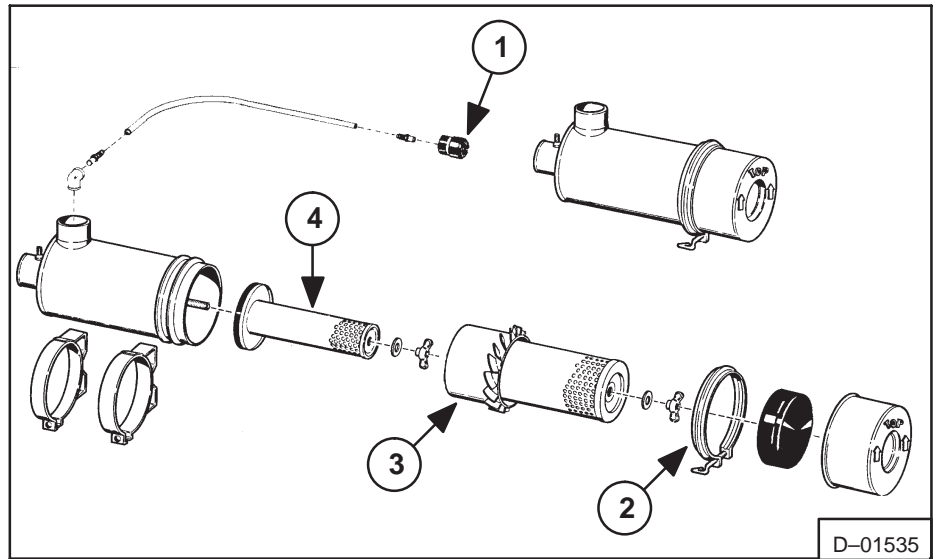
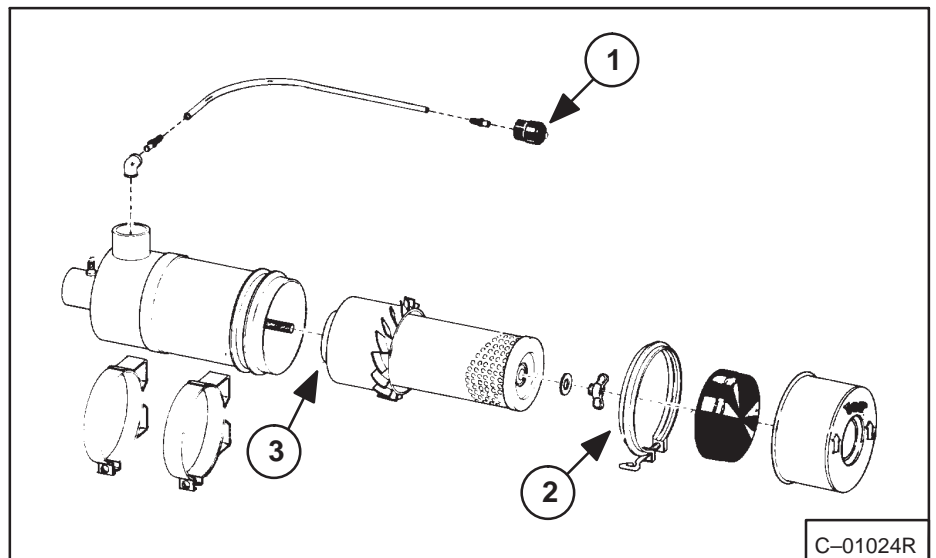

Fig. 1-15 Air Cleaner Service (641, 643)
Fig. 1-16 Air Cleaner Service (642)
Do not replace the filter element unless the red ring shows in the condition indicator (641 & 643, Fig. 1-15, Item 1; and 642, Fig. 1-16, Item 1).
1. Loosen the clamp on the dust cup (Fig. 1-15, Item 2). Remove the dust cup and the element.
2. Clean the inside of the filter housing so the element has a smooth surface to contact the seal (Fig. 1-15, Item 3).
**NOTE: Replace the inner element (Fig. 1-15, Item 4) approximately every third time unless the red ring still shows in the condition indicator after replacing the outer element.**
1. Loosen the clamp on the dust cup (Fig. 1-16, Item 2). Remove the dust cup and the element.
2. Clean the inside of the filter housing so the element has a smooth surface to contact the seal (Fig. 1-16, Item 3).
5. Push the button, at the condition indicator (Fig. 1-16, Item 1) to remove the red ring.